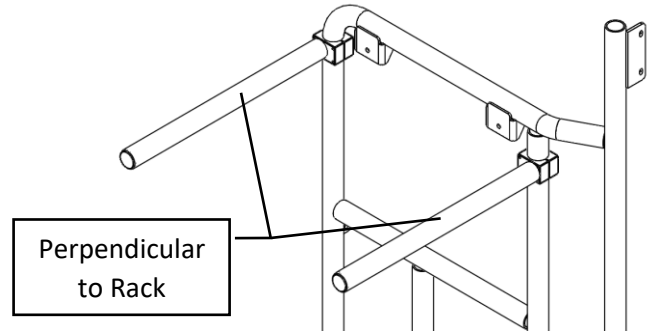

Figure 3: Upper Supports Installed
3. Install the bolt-on tire/box supports onto the vertical members of the base unit rack near at the bottom of the rack as shown in Figure 3.